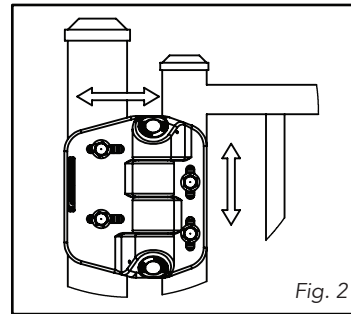
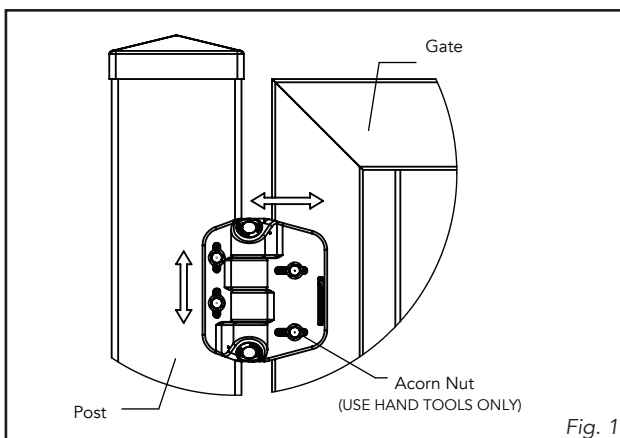

Fig. 2
Fig. 1
1. First, choose the desired direction of mounting. Applications using larger post and gate frames should mount the hinge so that the vertical adjustment is on the fence post and the horizontal adjustment is on the gate frame (Fig. 1). Applications with smaller gate frames (1.5" - 2") should mount the hinge so that the vertical adjustment is on the gate frame and the horizontal adjustment is on the post (Fig. 2).
1. Determine if the handing of the latch out of the package is correct for the application. When mounted on the fence post opposite the hinges, the latch side of the assembly (Fig. 1) should be on the same side of the fence as the hinges. If the latch needs to be reversed, continue to Step 2. If the latch does not need to be reversed, skip to Step 4.
2. Remove the (4) housing screws (Fig. 2). Slide the latch assembly from the main housing. Slide the button assembly from the main housing. Remove the button from the button housing, rotate the button 180°, and reinstall the button into the button housing, taking care to leave the spring in the button.